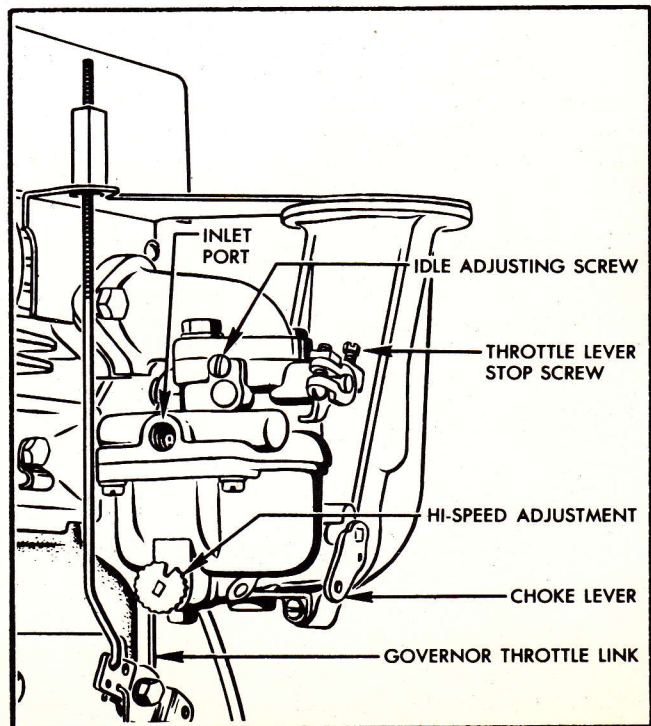

Figure No. 9
1. Remove the carburetor from the engine and invert the throttle body. (See Figure No. 9.) Remove the body gasket.
1. Close the idle adjustment screw and the high speed adjusting needle (See Figure No. 9) by turning them clockwise to a finger tight position.